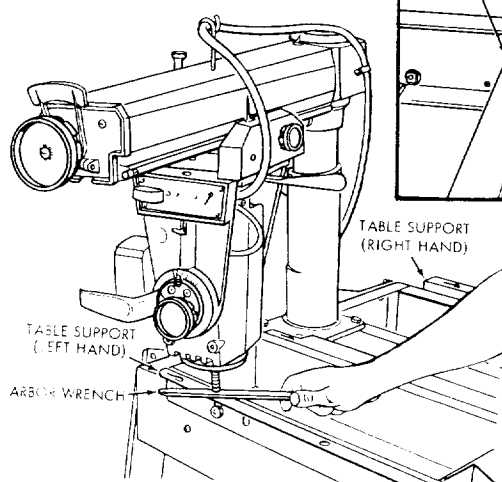

Figure 20
- i. Move the motor shaft to the rear position of the left-hand table support (over the rear mounting screw) and adjust the left-hand support in the same manner as the No. 2 support. (See figure 20.)
- k. Recheck both rear and forward positions (figures 20 and 21) until the arbor wrench slides with the same resistance at each position. Several trials may be required to produce an accurate setting.